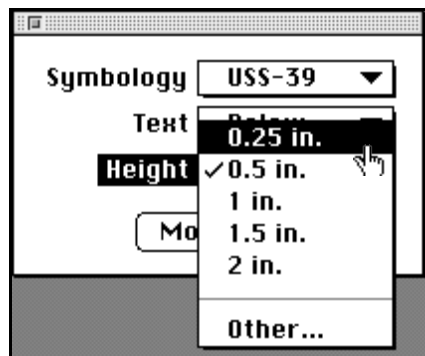

Figure 2-3 Bar Code Info Window - Bar Code Height Selected
3. Change the setting to **0.25 in.** See Figure 2-3. This makes it easier to fit the bar codes and other objects into the labels that you create.